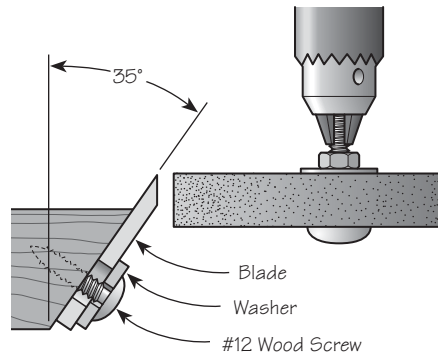

Figure 12: Blade holder.
- **Holder:** Cut a 35° bevel on one end of a $6" \times 1\frac{1}{2}" \times 1\frac{1}{2}"$ piece of wood. Drill a pilot hole for a #12 wood screw into the bevelled end as shown in **Figure 12**. Fix the blade to the holder with a $\#12 \times \frac{1}{2}"$ round-head wood screw and washer.